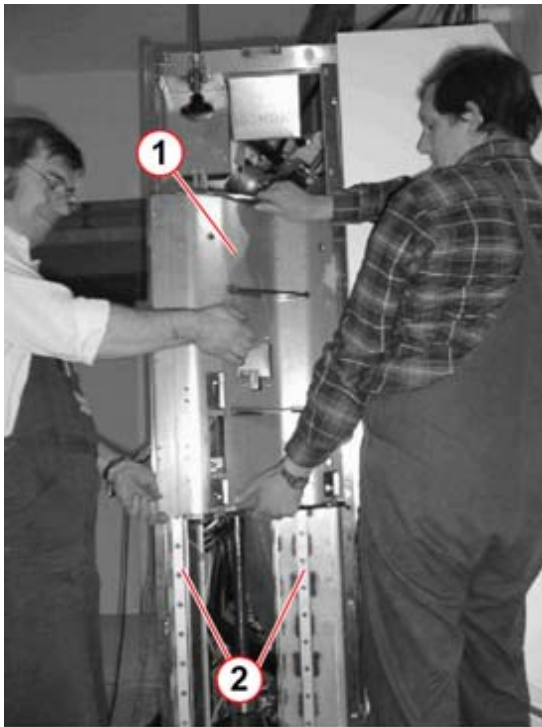

Fig. 13: Docking plate
- Remove the docking plate (1/Fig. 13 / p. 18) from the top.
- Exchange both guide rails (2/Fig. 13 / p. 18).